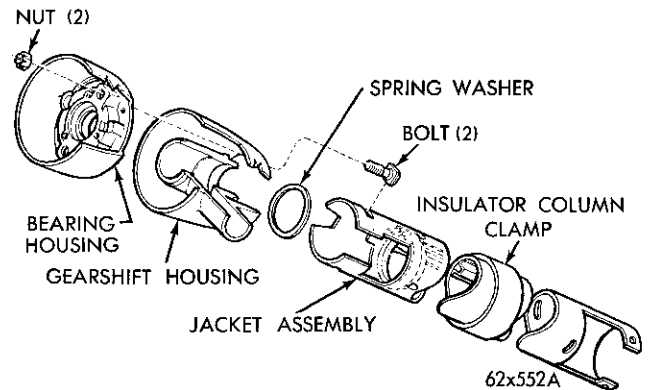

Fig. 11—Jacket Tube (Disassembled)
(14) Remove the floor plate from the column jacket.
(15) Remove the hexagon nuts from the two bearing housing retaining bolts, and lift the steering column upper bearing housing off the jacket assembly (Fig. 11).
(16) Lift the gearshift housing and spring washer off the steering column jacket.
(1) Position the spring washer on the ledge provided in the top end of the steering column jacket (Fig. 11) and place the shift lever housing in position at the top end of the column jacket.
(2) Place the two bearing housing retaining bolts in position in the housing, and just start the nuts on them.
(3) Stand the column assembly upright, and lower the bearing housing into position, engaging the bolt heads in the slots in the column jacket.
(4) Tighten the two retainer bolt nuts alternately and evenly in steps to prevent unseating the bolt heads from the slots. Tighten to 50 inch pounds.
(5) Position the floor plate isolator in the opening in the plate. Lubricate the isolator with a soap solution or rubber lubricant, then slide the floor plate assembly on the steering column with the insulated side down.
(6) The floor plate assembly must be installed before installing the shift tube and levers, since this cannot be done after the shift tube and levers are in place in the steering column.